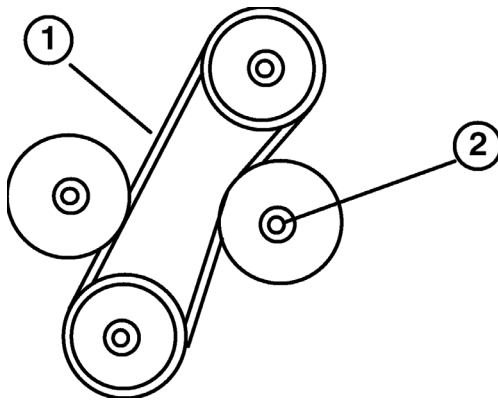

Figure 33
3. The belt should deflect $\frac{1}{4}$ in. (6 mm) midway between the pulleys with 5 lb. force (22 N•m) (Fig. 33). If deflection is incorrect, go to step 4. If correct, go to step 5.
4. Loosen the locknut securing the adjustable idler pulley (Fig. 33). Push the idler pulley against the belt until proper deflection is achieved, then tighten the idler pulley locknut (Fig. 33).
2. Loosen the locknut securing the adjustable idler pulley, slide the pulley away from the belt, and remove the belt from the pulleys (Fig. 33).
3. Install the new belt and adjust its tension. Push the idler pulley against the belt until the belt deflects $\frac{1}{4}$ inch (6 mm) with 5 lb. of force (22 N•m) midway between the top pulley and stationary idle pulley. Tighten the idler pulley locknut to secure adjustments (Fig. 33).